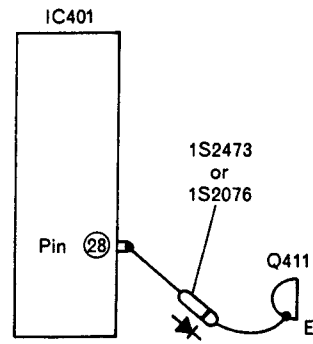

Fig. 11
4) After adjustment, remove a diode as shown in Fig. 11.